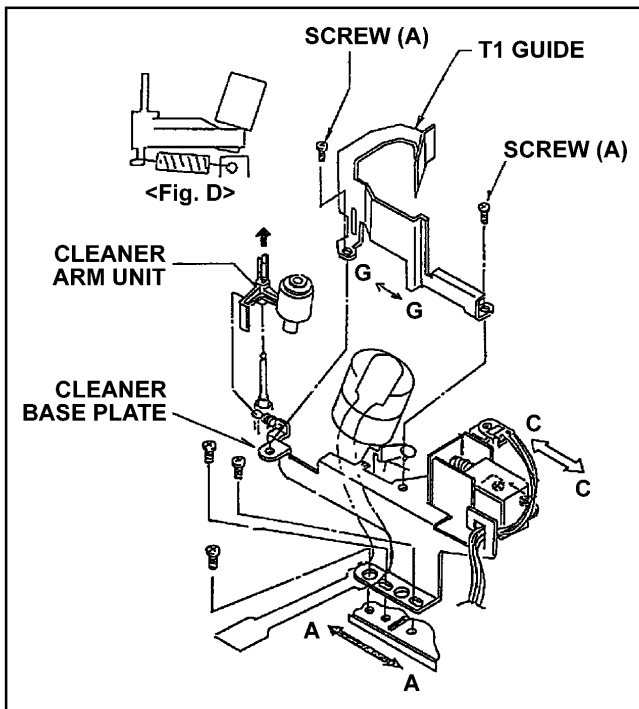

Figure 5-2
1. Unscrew the 2 screws (A) and remove the T1 Guide as shown in Figure 5-2.